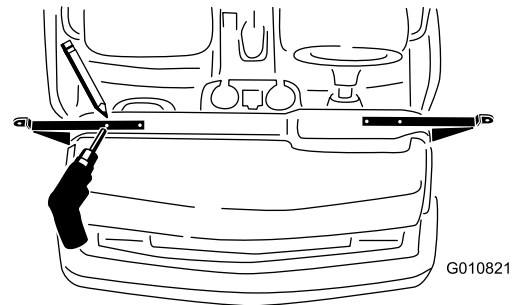

Figure 5
4. Using the upper mirror bracket as a template, locate, mark, and drill 2 holes (12.7 mm or 1/2-inch) diameter into the dash (Figure 5).